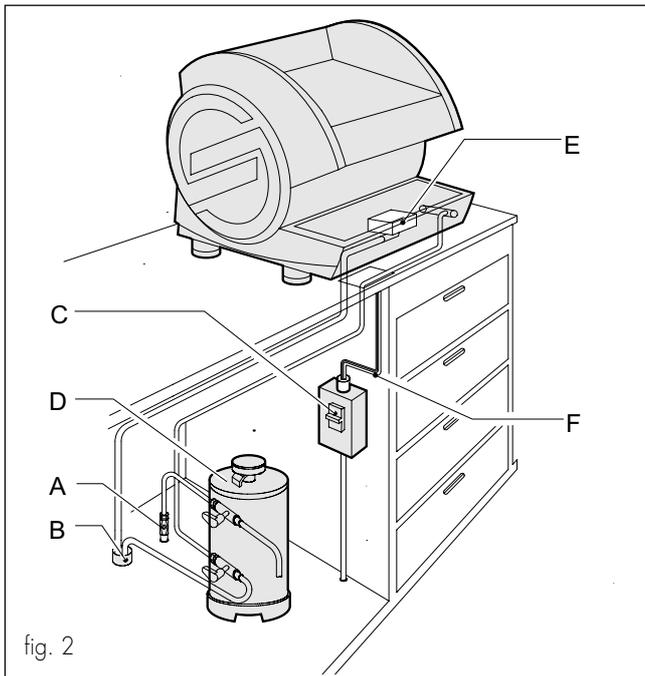

fig. 2
Open the mains water supply tap (A) (fig 2).
Close the protection switch (C) (fig 2).